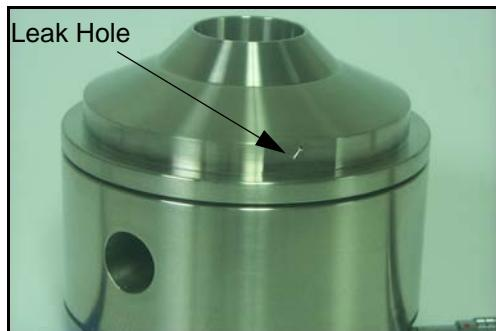

FIGURE 5-5 AEC100 with coupler, leak hole
Step 2 Visually inspect the coupler (MAE100.1) for gouges, scratches and dents which may affect the measurement, especially around the lip which will be in contact with the test earphone. Verify that the small metallic wire in the capillary leak hole is present with no other obstructions (FIGURE 5-5).